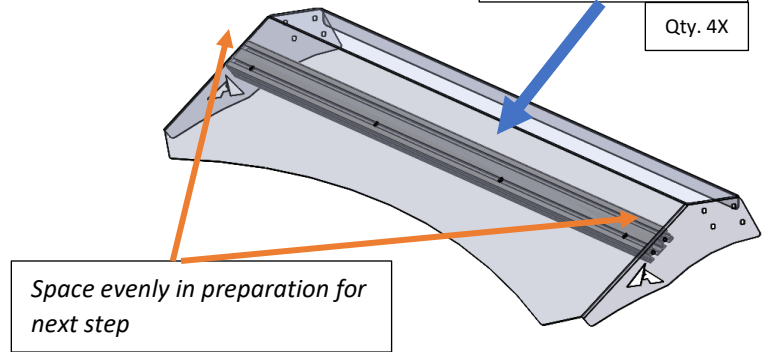

Figure 11: Crossbar Install onto Air Dam
7. Slide track nuts into position to match the air dam. Use the air dam as a template for spacing, and bolt the air dam to the crossbar. Reference Figure 11.